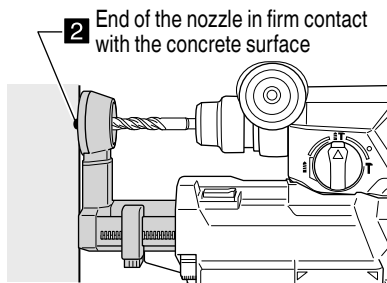

Fig. 11
- (2) Release the nozzle and allow it to make firm contact with the surface of the concrete. (Fig. 11)